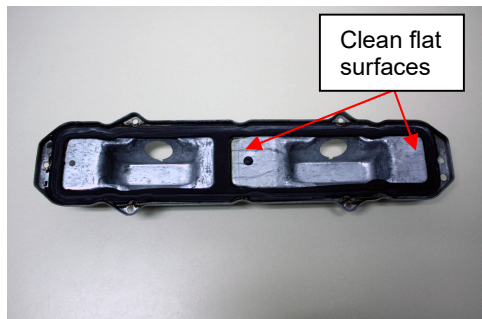

Figure 1
2. Clean the flat surfaces on the inside of the back housing plates. (See Figure 1)